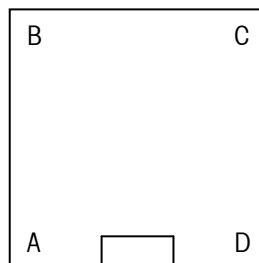

Figure 4-1: Test Weight Locations
3. Figure 4-1 shows the locations (A, B, C, and D) for positioning test weights equal to 1/4 of the scale's rated capacity. Place the test weight at location A and record the weight reading. Then move the test weight to location B and record the weight reading. Continue until you have taken a weight reading at each of the four locations.